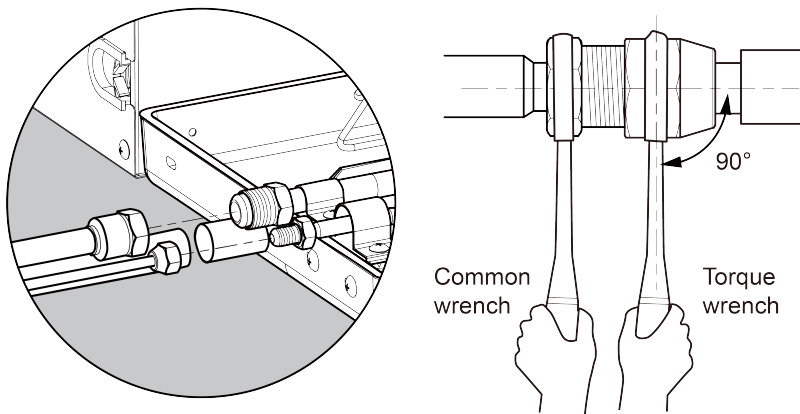

Fig.4.4.1
- (1) Conform to the following principles during piping connection: Connection pipeline should be as short as possible. The height difference between indoor and outdoor units should be as short as possible. Keep number of bends as little as possible. The radius of curvature should be as large as possible.
- (2) Weld the connection pipes between indoor and outdoor unit. Please strictly conform to the requirements for welding process. Rosin joints and pin holes are not allowable.
- (3) When laying the pipes, be careful not to deform them. The radius of bending parts should be more than 200mm (7-7/8inch). The pipes cannot be repeatedly bent or stretched, otherwise the material will get harden. Do not bend or stretch the pipe over three times at the same position.
- (4) Please use a torque wrench to connect union nut on the indoor unit. See Fig.4.4.1.